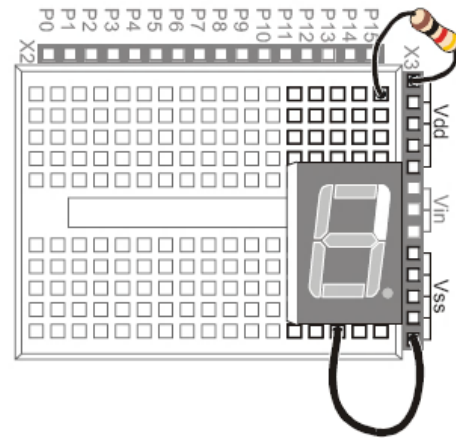

Fig 4.7: 7-Segment display test circuit (B Segment)
- Disconnect power, modify the circuit by connecting the resistor to the B Segment LED, Which pin number is that? \_\_\_\_\_. if you need connection help check figures 4.7 and 4.8.